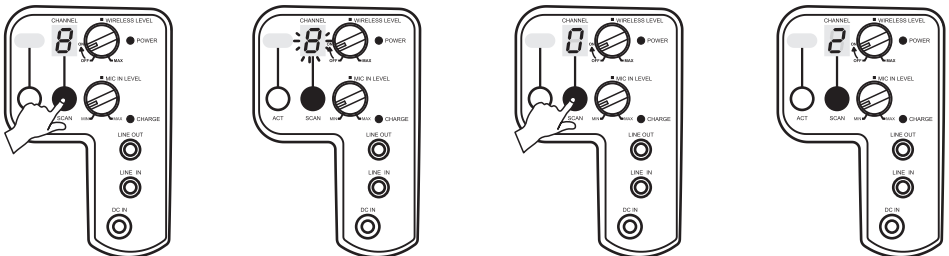

Fig. 3
(B) Manually Selecting a Channel: Press and hold the Channel SCAN button for 1 second. Channel indicator blinks and displays current channel. During channel blinking, press and hold Channel SCAN button to force the receiver to change to the next available programmed channel every one or two blinks. Once blinking stops, the new channel is saved automatically. See Fig. 3.
- (1) Press & hold SCAN for 1 second (2) Current channel displays and blinks (3) Press & hold SCAN to force for a new channel (4) New channel is saved